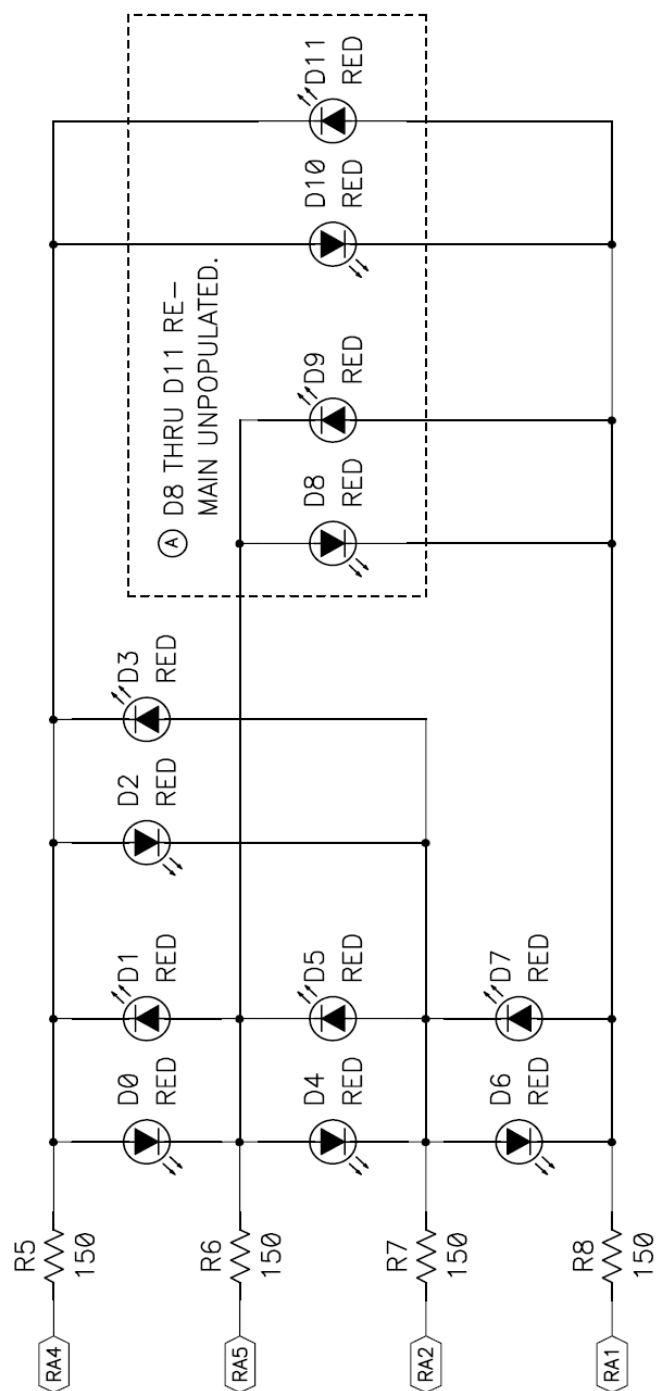

Figure 4 – PICkit 1 Starter Kit ADC Input Circuit
3. The PICKit 1 Starter Kit potentiometer RP1 is connected to RA0 and will be used to vary the voltage to the ADC (Figure 4).
- b.** Examine the code provided along with the schematic shown in Figure 4. Understand how the Code was developed, what features of the PIC16F684 are turned on/off as well as what the expected voltages will be seen by the ADC.
- a.** Construct your own circuit that will utilize all 10 bits from the ADC and an analog input (0 to 5 volt DC) of the same type circuit shown in Figure 4. Circuit can be constructed such that it utilizes the LED configuration shown in Figure 3, however, you can construct the circuit as you desire. A circuit diagram shall be submitted with your Lab Report (hand drawn is acceptable). The following precautions need to be observed: